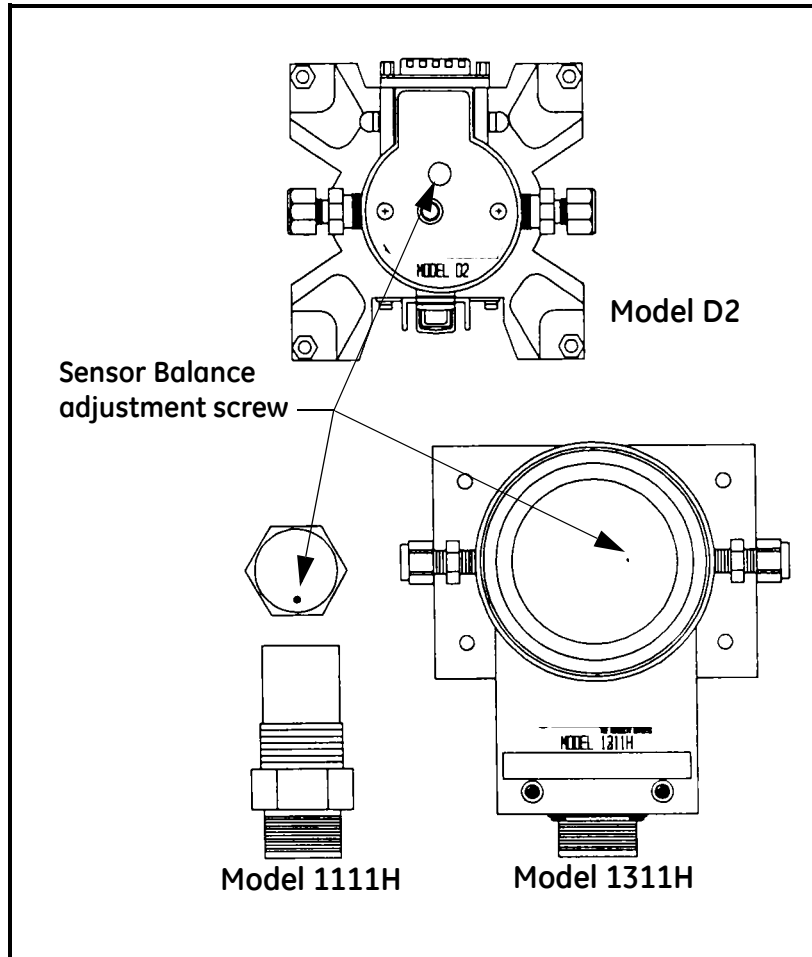

Figure 46: Balance Adjustment Screw Locations
5. If more than one bar segment or no bars are illuminated, use the screw or hex driver to adjust the optical bias screw (shown in Figure 46 below) on the sensor until only one bar is illuminated. You are performing a coarse balance adjustment.